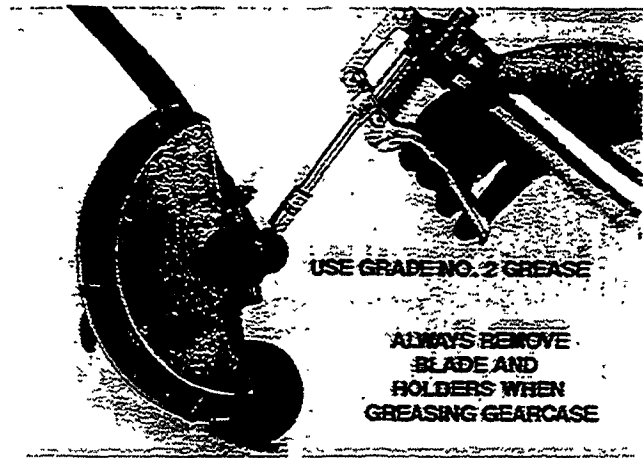

Figure 36
- Each 10 hours of use the gearcase should be regreased by first removing the blade, blade holders and seal collar (Figure 36).